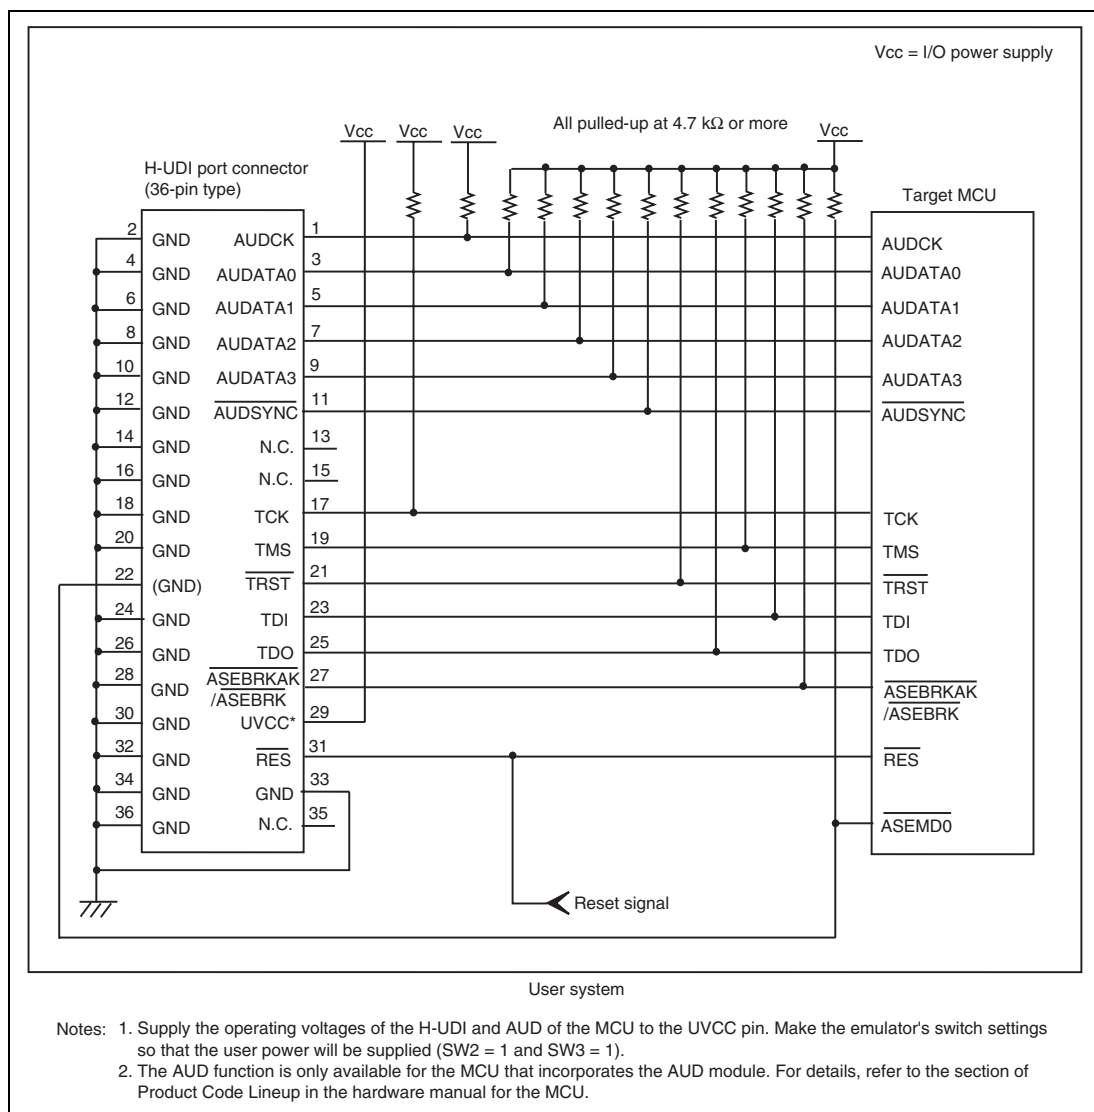

Figure 1.3 Recommended Circuit for Connection between the H-UDI Port Connector and MCU when the Emulator is in Use (36-Pin Type)
Figure 1.3 shows a recommended circuit for connection between the H-UDI and AUD port connectors (36 pins) and the MCU when the emulator is in use.
(1) When the emulator is used: `_ASEMD0` = 0
(2) When the emulator is not used: `_ASEMD0` = 1
Figure 1.3 shows an example of circuits that allow the `_ASEMD0` pin to be GND (0) whenever the emulator is connected by using the user system interface cable.
7. The resistance value shown in figure 1.3 is for reference.
When the circuit is connected as shown in figure 1.3, the switches of the emulator are set as SW2 = 1 and SW3 = 1. For details, refer to section 3.8, Setting the DIP Switches, in the SuperH™ Family E10A-USB Emulator User's Manual.